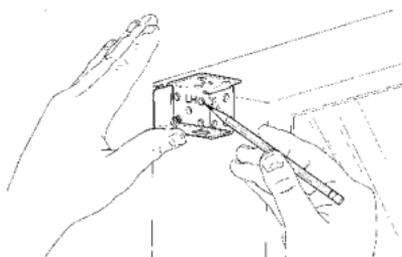

Figure B1
1. Facing the window, hold the end bracket marked "LH" in the upper left hand corner of the window against the top and side of the window casing. Position the front edge of the closed end bracket flush with the front edge of the window casing. (See Figure B1)
2. Using a pencil, mark the window casing through the holes in the side or the top of the end bracket. For maximum stability, the pencil marks should be made diagonally. (See Figure B1)